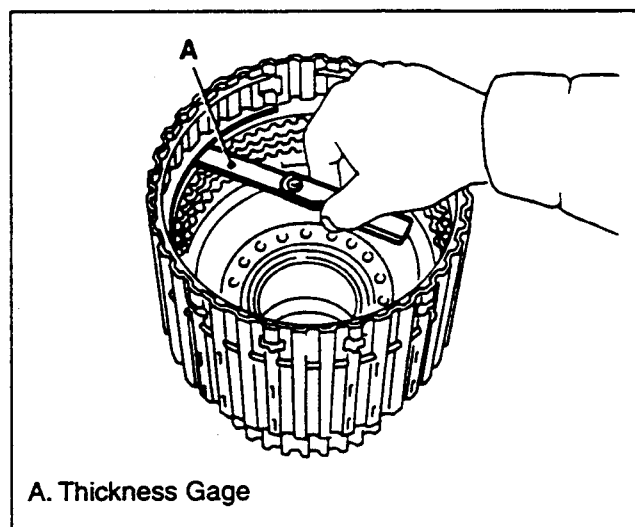

Figure 164. Clearance Check
6. After operation check, measure the clearance between the retaining plate of the forward clutch and the snap ring with a thickness gage (figure 164).